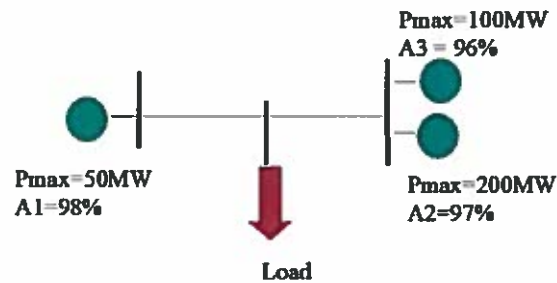

Figure 1.2: A system with 3 generators
- c) Consider a system supplied with three generators with given capacities and availabilities as in Figure 1.2.